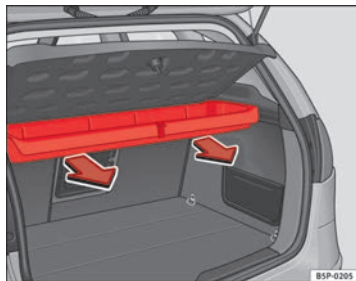

Fig. 124 Removing storage compartment
- Pull outwards until the compartment is freed from the pivot point ⇒ fig. 124.